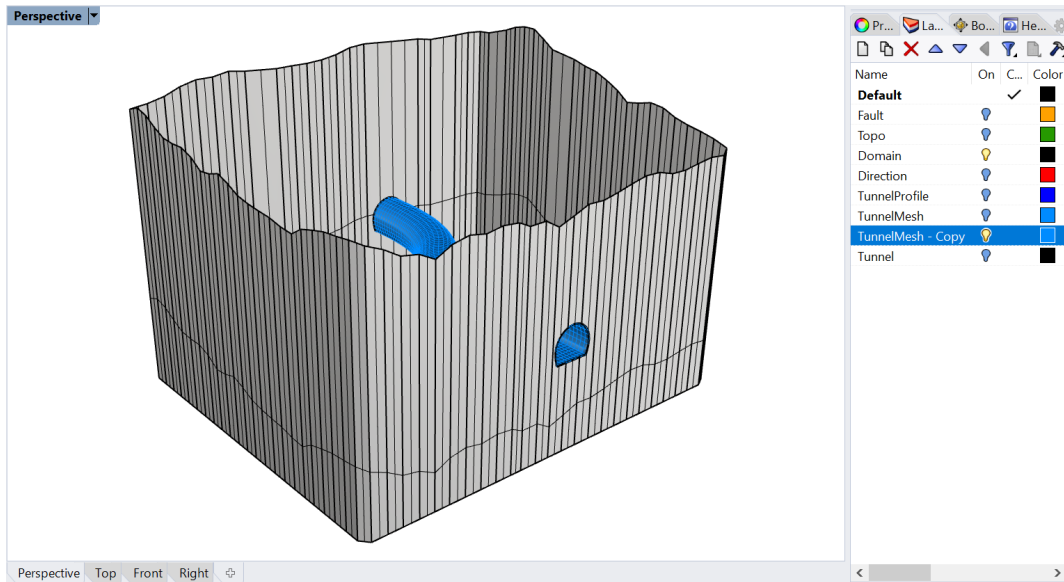

Figure 60: Removing parts of the domain at tunnel front and back.
34. Delete parts of the domain corresponding to the tunnel front and back to create openings for the tunnel (Figure 60).